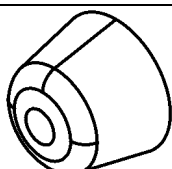

FIG.17
- 11 – Leave a space of at least 5 cm in the rear of the autoclave, using the spacer (*FIG. 1–pos.8 / FIG. 17*) and in the sides of the unit to ensure the ventilation required.